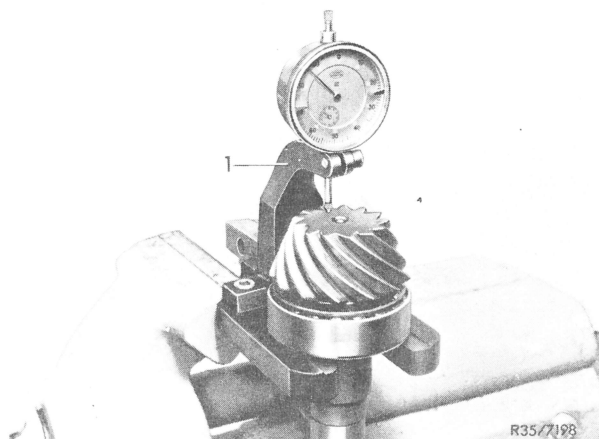

Fig. 5 (small center housing)
3a Place outer bearing race on roller cage on drive pinion and **read** difference between measuring body height "B1" and pinion height with bearing (**Fig. 5**) and **enter under item 1 into data sheet**, page R 550/7 (small center housing).